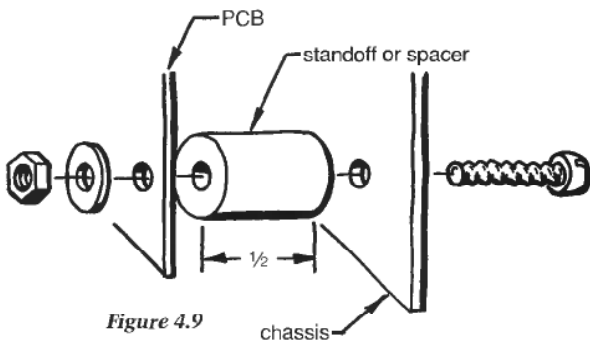

Figure 4.9
15. Using plastic standoffs, mount the pcb on either the box bottom or on the box side panel (Figure 4.9).